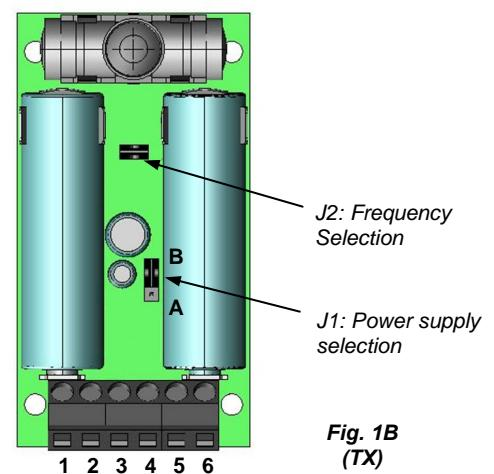

Fig. 1B
- Make connections as indicated in the previous paragraphs and select the transmitter power supply with the specific jumper (J1, Fig. 1B):
- Connect to the specific terminal strip (terminals 3 & 4, Fig. 1B) the safety edge or external safety device contact to the transmitter. **If this option is not used, jump terminals 3 and 4.**
- Connect to the specific terminal strip (terminals 5 & 6, Fig. 1B) the contacts of the 8K2 resistive edge external to the transmitter. **If this option is not used, leave the supplied resistor connected between terminals 5 and 6.**